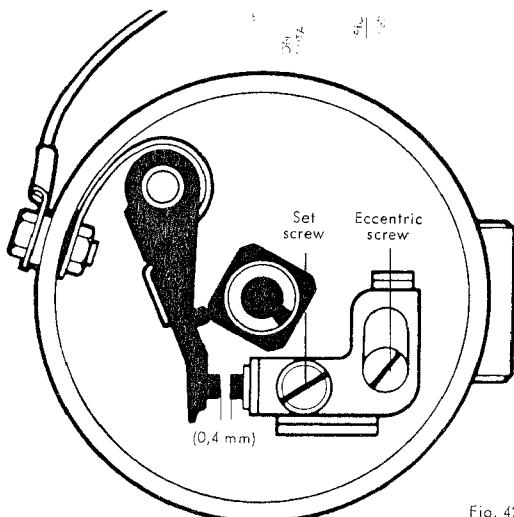

Fig. 42
2. Turn the crankshaft until the fiber block on the breaker arm rests on the highest point of the cam lobe (Fig. 42).